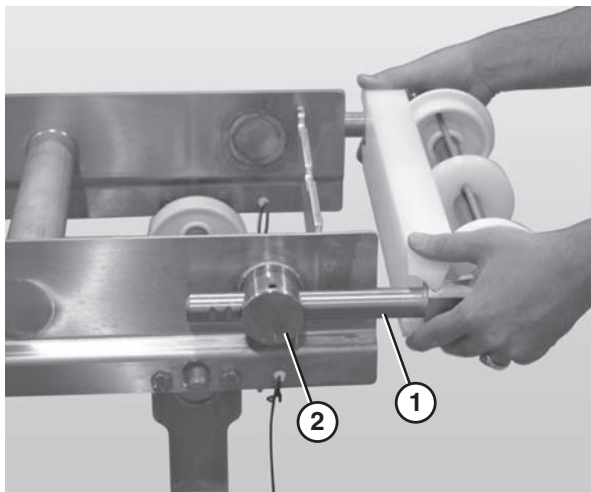

Figure 71
2. Slide the idler tail assembly (Figure 71, item 1) out of the take up blocks (Figure 71, item 2).